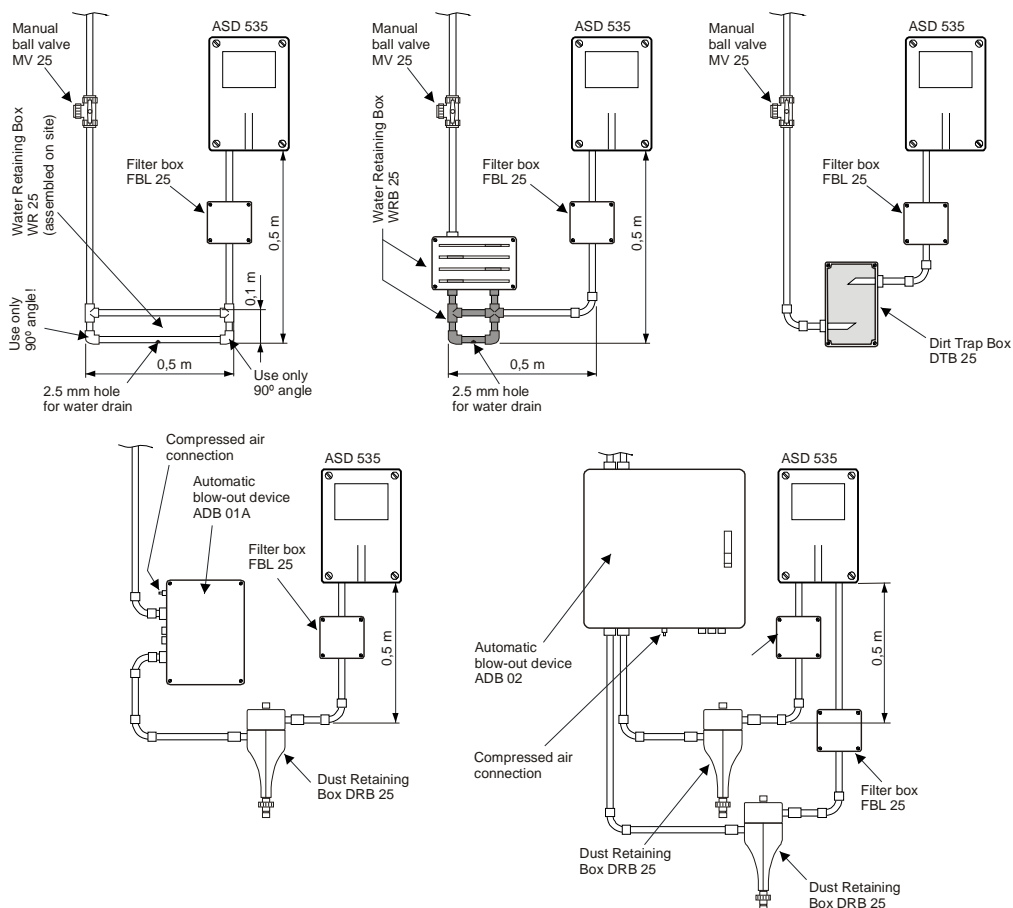

Fig. 31 Mounting accessory parts
- The mounting positions of water separator, dust trap and dust separator must be observed as shown in Fig. 31.